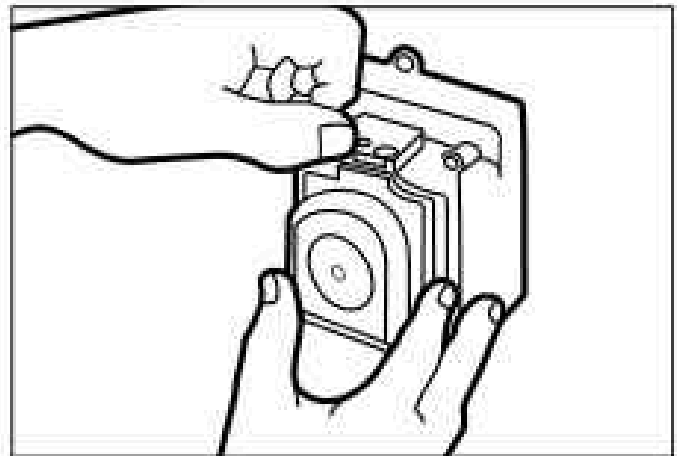

Figure 22. Lock the Cover
4. To lock the cover in place, press down on the cover while turning the vertical tab 180 degrees from right to left. Install the Phillips head locking screw. See Figure 22.